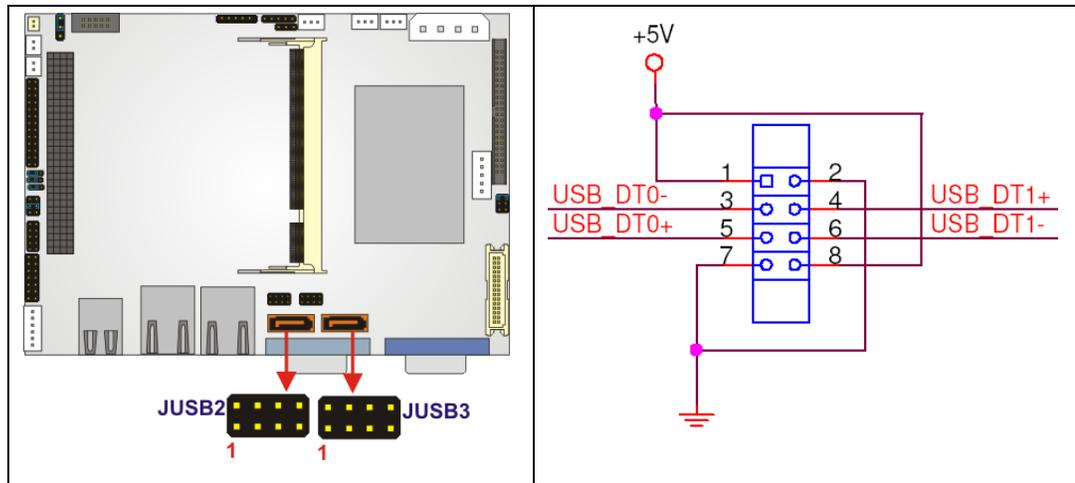

Figure 3-21: USB Connector Pinout Locations
- CN Location:** See Figure 3-21
- CN Location:** See **Figure 3-21**